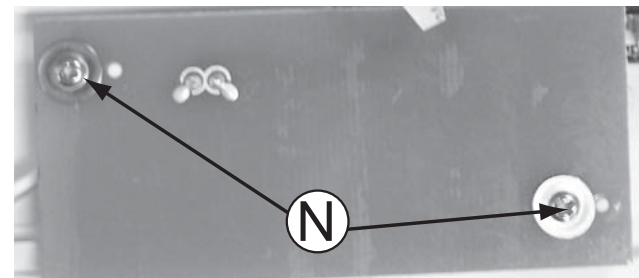

Figure 15
- 2) Loosen 2 screws "N" on the LED PCB to remove it as shown in figure 15.